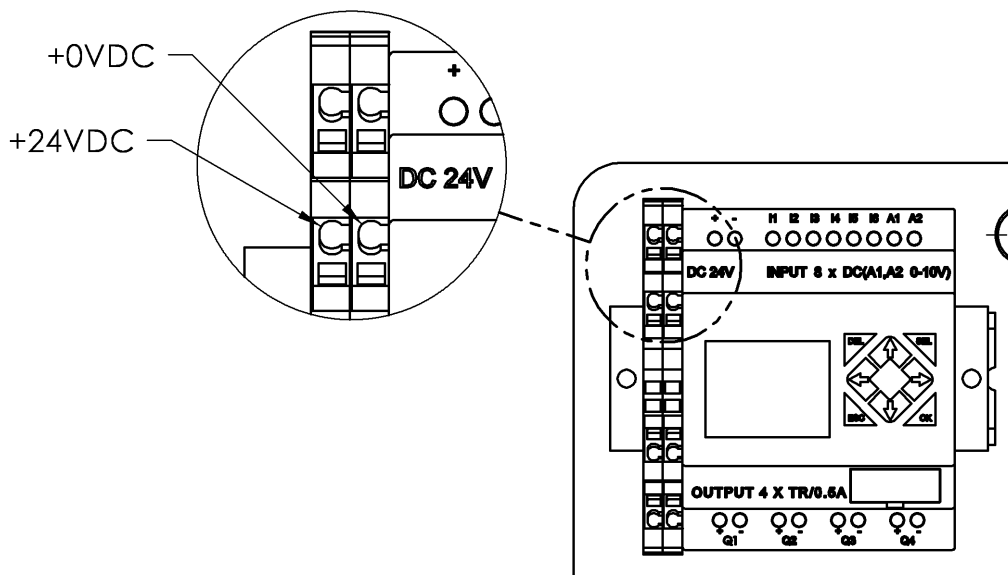

Figure 6-2: 24VDC Connection
- Terminal blocks are insulation displacement type. Insert 22-16 awg wires into the indicated location and rock lever to engage connection, see Figure 6-2.